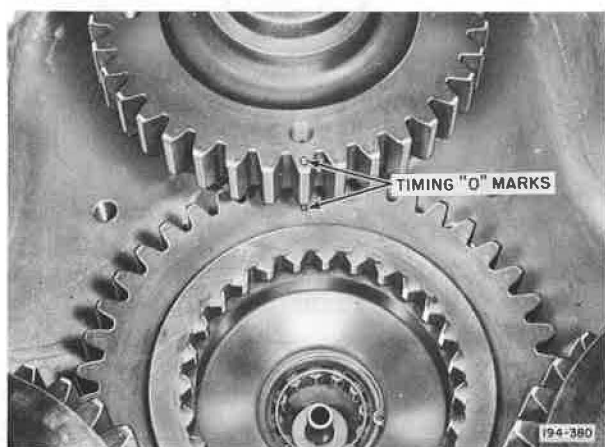

Figure 5-165. Aligning Compound Main Driving Pinion Timing "O" Marks with Compound Countershaft Timing "O" Marks
11. (TRDXL1070) Remove steel support blocks. Match timing "O" marks on main driving pinion with timing "O" marks on each of the compound countershaft gears and mesh gears. See Figure 5-165.